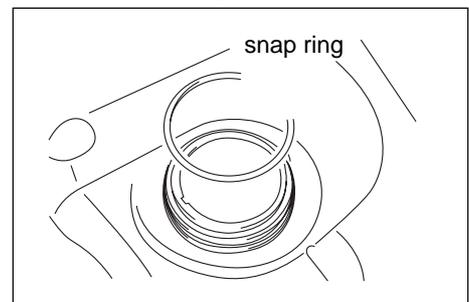

Figure 3-8
- Mount the fuel oil pump assembly (see Figure 3-8). Replace the sealing ring. Align the boss on the oil pump with the nick on the oil tank port; tighten the oil tank cap with special tool.